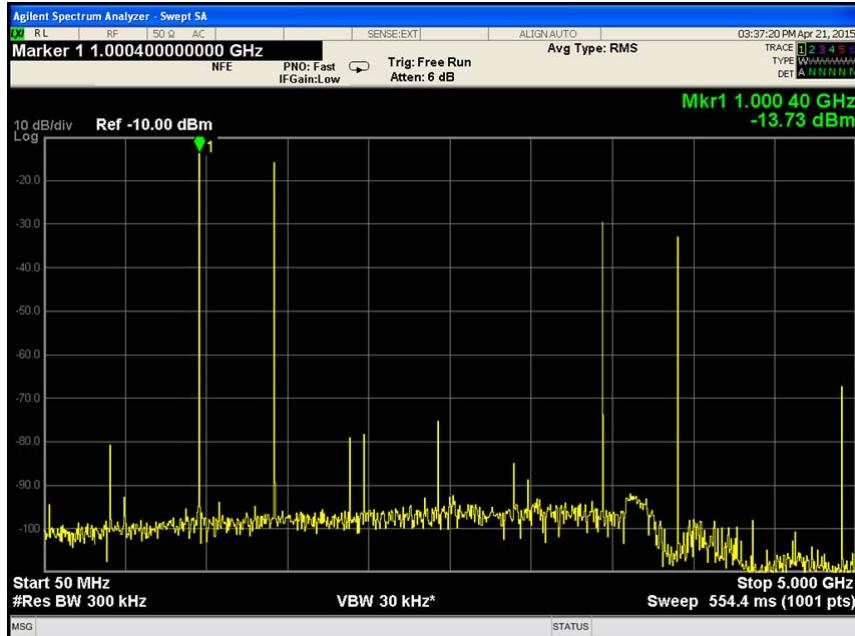

Figure 9. Spectrum Analyzer plot of DAC output in NCO mode, showing single tone at 1 GHz
6. A 1 GHz single tone should now appear on the spectrum analyzer as shown in Figure 9. Change the NCO frequency and repeat step 3 to step 5 for getting different DAC output.